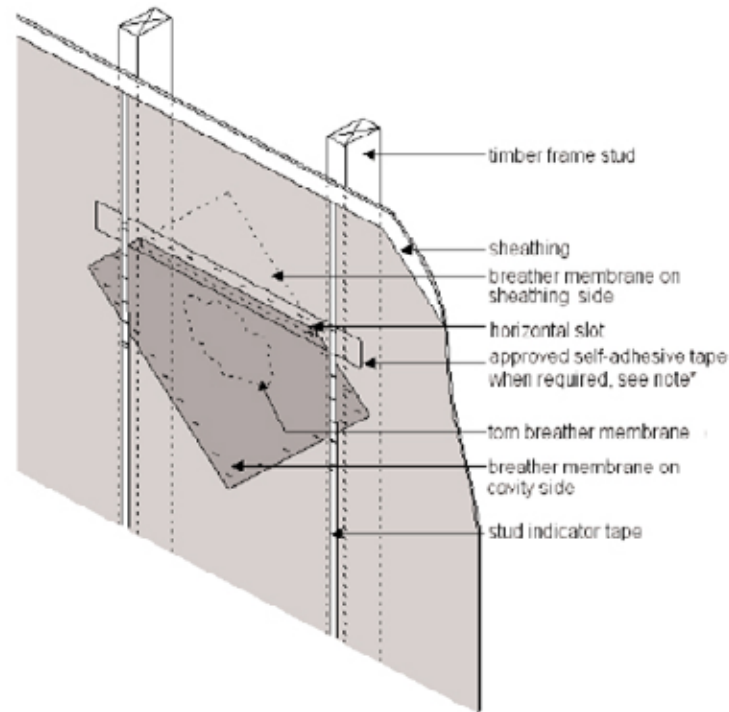

Figure 8 Repairing torn breather membrane
Any damaged membrane should be repaired or replaced, (see Figure 8), ensuring that the laps are maintained and that the upper sheet laps over the lower. When repairing torn breather membrane:
* (see Figure 8) For additional protection in 'very severe' 'exposure zones' a self-adhesive tape approved by the breather membrane manufacturer should be applied over the horizontal slot.